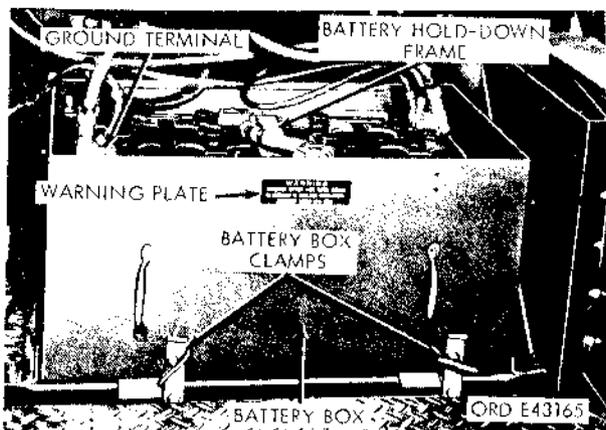

Figure 2-153. Battery installation.
(1) Open the battery compartment door.
(2) Loosen the wingnuts on both battery box clamps (fig. 2-153), and unhook the clamps from the box.
(3) Pull the battery box assembly out onto the step, and disconnect the cable from the negative (—) terminal post to ground (fig. 2-153).
(4) Disconnect all cables at the positive (+) and negative terminal posts on both batteries.
(5) Remove the battery holddown frame. Lift both batteries out of the box (fig. 2-153).
(1) Position the batteries in the box with the positive (+) posts toward the front of the vehicle, and secure the batteries with the holddown frame (fig. 2-153).
(2) Connect interconnecting cable from the negative (—) post of the front battery to the positive (+) post of the rear battery.
(3) Connect the batter-to-solenoid cable to the positive (+) post of the front battery.
(4) Connect the ground cable from the frame to the negative (—) post of the rear battery.
(5) Pack GAA grease around all terminal post connections.
(6) Slide the box assembly into the battery compartment, tighten the clamps with two wing nuts, and close the compartment door (fig. 2-153).